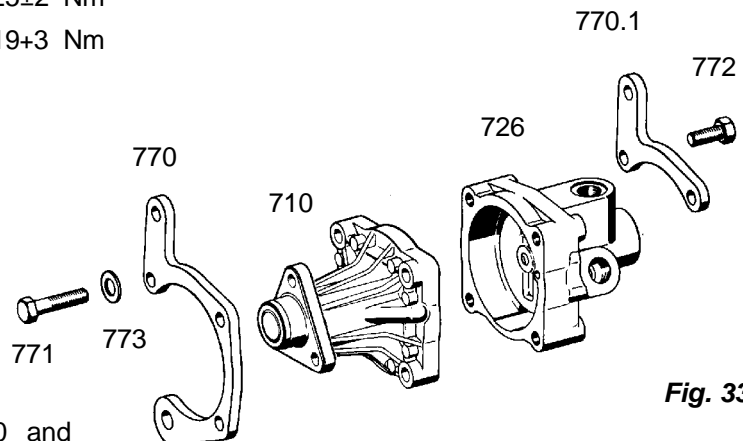

Fig. 33
6.1 Position the cover (726) as marked during dismantling (**Fig. 33**).